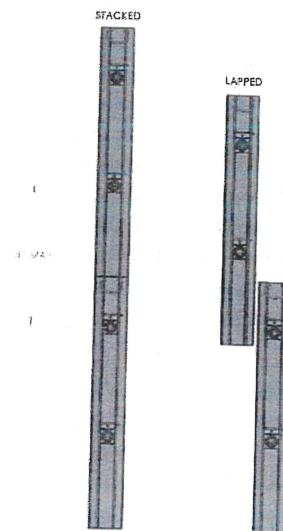

Figure 2: Stacked and Lapped Configurations, see Note 7.
7. Vertical hydraulic shores may be stacked or longitudinally lapped, see **Figure 2**, provided shore spacing is maintained.